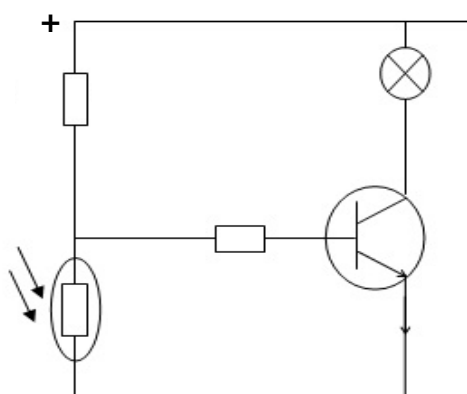

Figure 3
8. Explain why a transistor was used in the system shown in Figure 3.